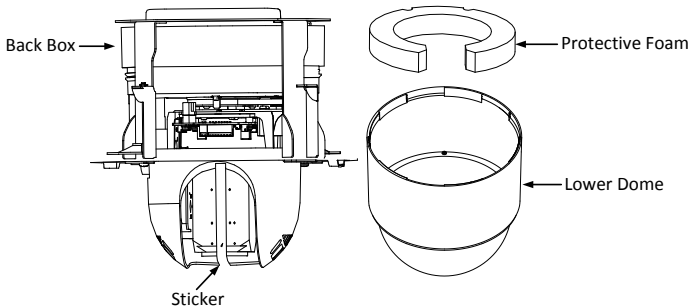

Figure 1-43 Remove the Protective Accessory
2. Rotate the lower dome counterclockwise to separate it from the back box as shown in Figure 1-43.